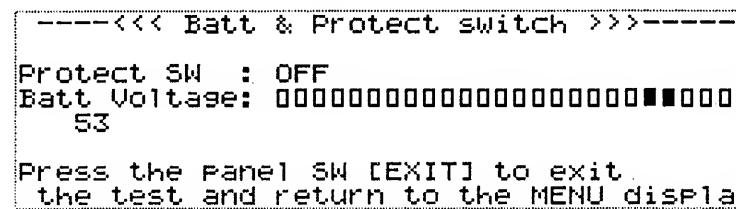

Fig.4
- The LCD shown in figure 4 will appear.